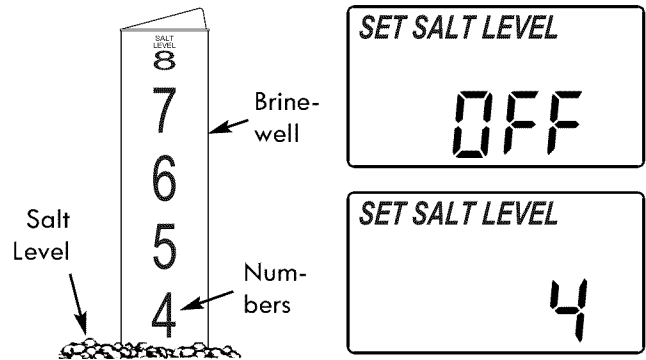

Figure 24
2. The salt level scale, on the brinewell inside the tank, has numbers from 0 to 8 (see Fig. 24). Observe the highest number the leveled salt is at, or closest to.